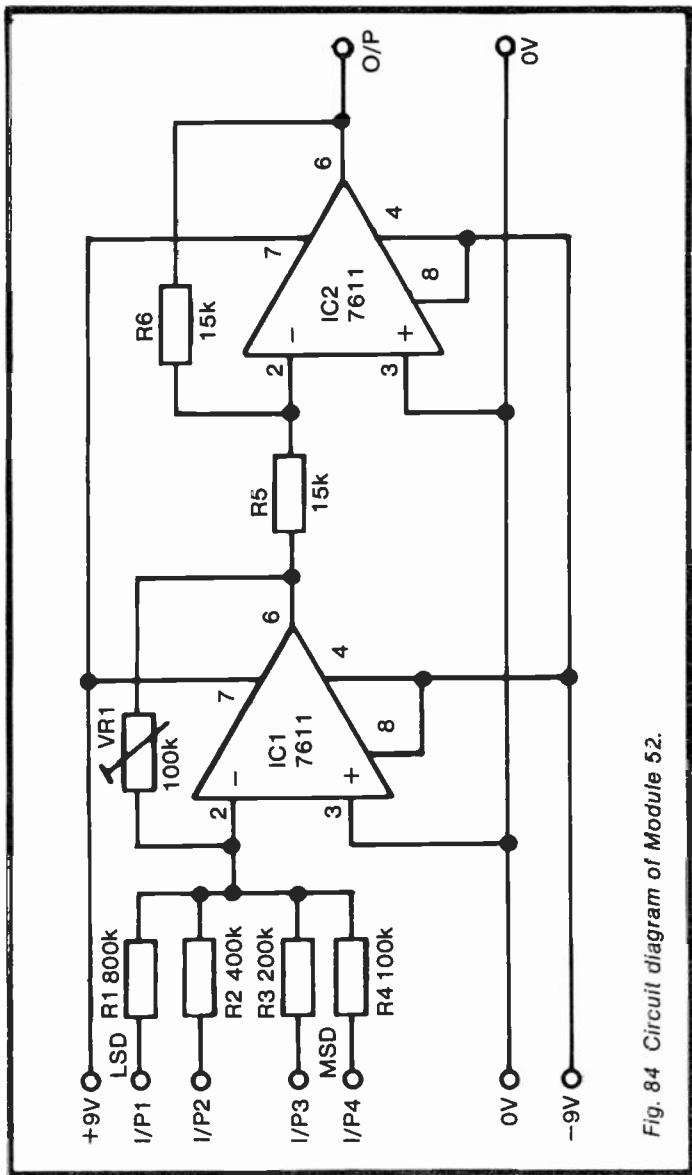

Fig. 84 Circuit diagram of Module 52.
*Circuit diagram:* see Figure 84.